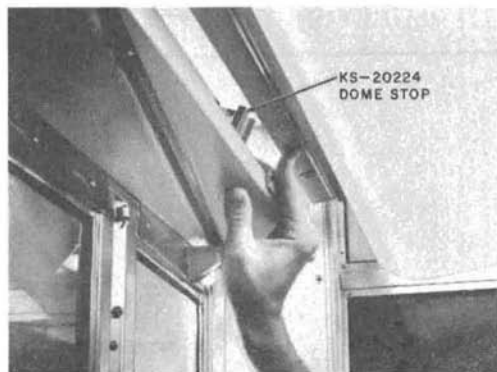

Fig. 5—Releasing Dome Stop
- 2.10 To lower the dome, push up on the dome stop as shown in Fig. 5. After dome is lowered, release and stop.